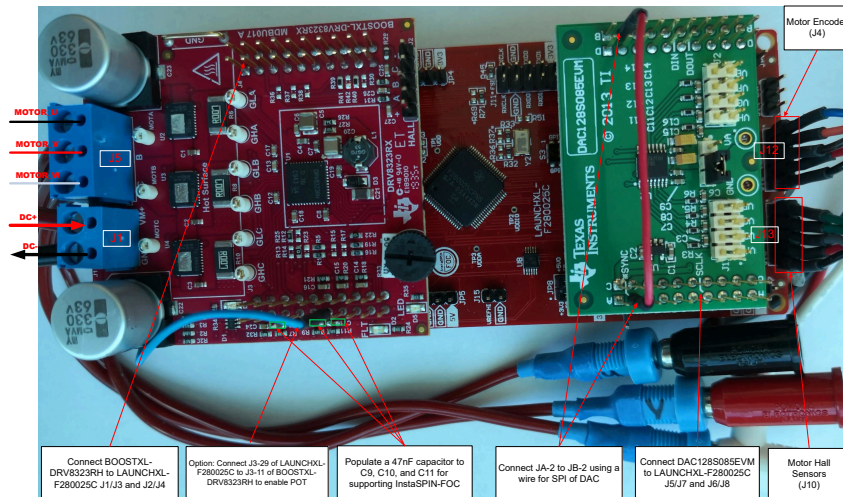

Figure 2-4. LAUNCHXL-F280025C Connects BOOSTXL-DRV8323RH and DAC128S085EVM
- Make sure that the following items are set as described below, and then connect BOOSTXL-DRV8323RH to J1/J3 and J4/J2 site of LAUNCHXL-F280025C as shown in Figure 2-4.
- Connect the motor, encoder, and hall sensors to the kits as described in Table 2-2 and shown in Figure 2-4.
- Connect a supply voltage ranging from 6 to 54 V from a battery or a DC voltage source to the voltage supply pins as shown in Figure 2-4. Power should only be applied when instructed to do so in Section 2.5, keep disconnected otherwise.